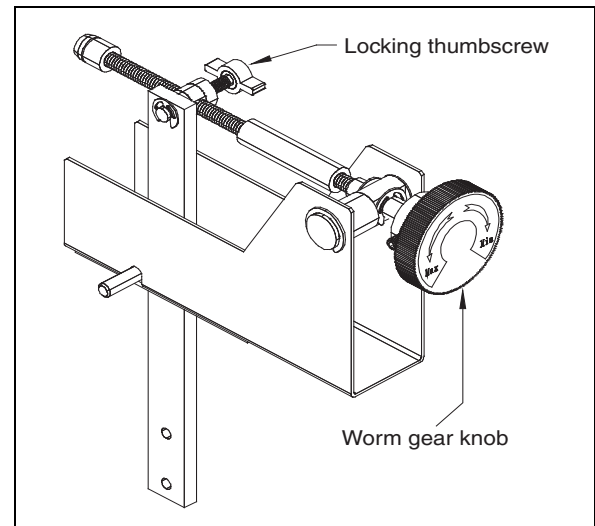

Fig. 6 Field flow adjustment.
3. If more flow is needed, turn the worm gear knob clockwise, in the direction of the green arrow (see Fig. 6).
4. If less flow is needed, turn the worm gear knob counter clockwise, in the direction of the red arrow (see Fig. 6).